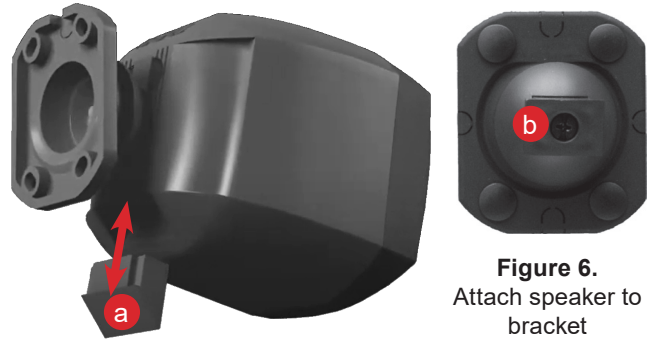

Figure 6.
8. Slide the rubber security piece (a) out from the back of the speaker and slide the speaker on to the H-hook (b) on the mounting bracket. Slide the rubber piece back in place to lock and secure the cabinet (Figure 6).